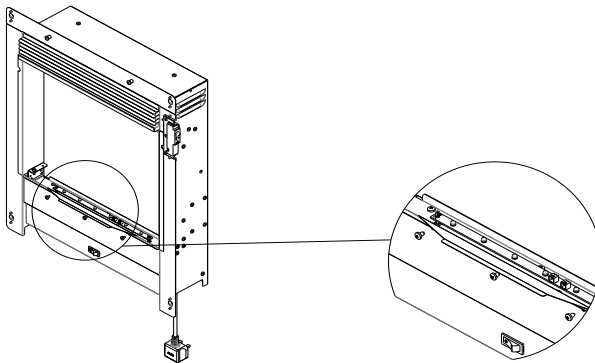

Figure 3
- The fuel bed reflector plate is fixed on the panel with three ST4 x 8 self-tapping screws as shown below in figure 3